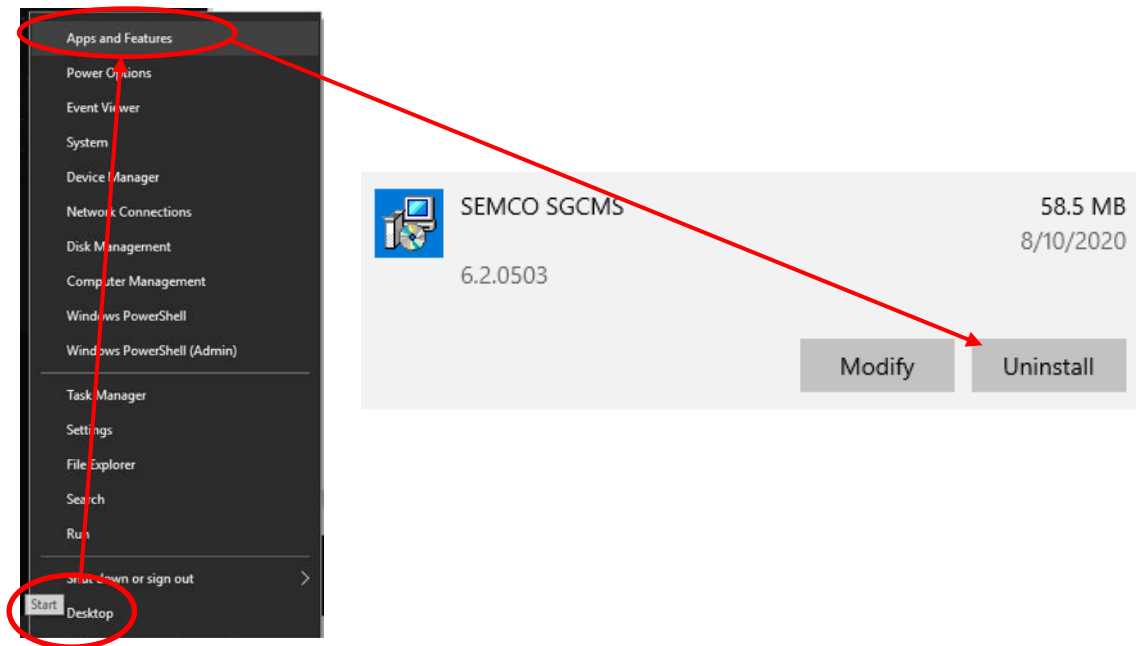

Figure 2-7
Step 1 - If the SGCMS program has been previously installed, Uninstall the software before continuing as shown in Figure 2-7. Right-Click on **Start > Apps and Features**, find and click on the program and then select **Uninstall**.